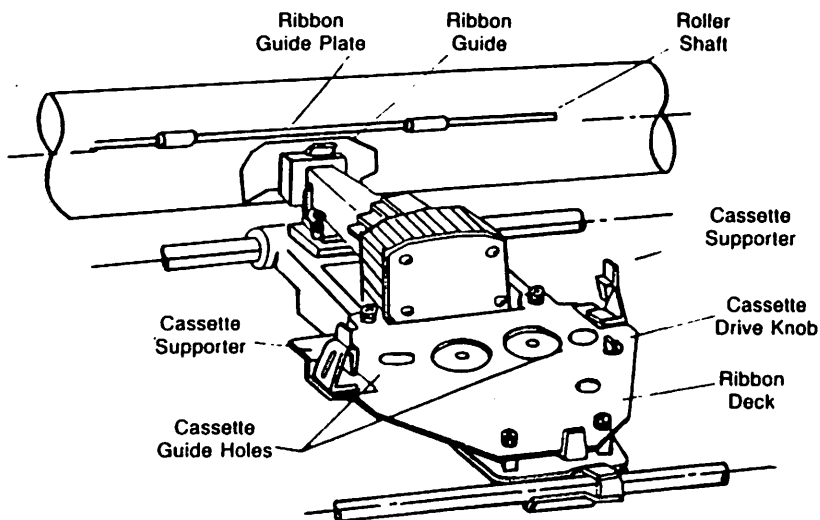

Figure 7 Ribbon deck without ribbon cassette
6. To install the cassette, place the ribbon between the ribbon guide plate and the ribbon guide (refer to Figure 7).
5. Open the left and right head securing levers by moving them outward (Figure 7).